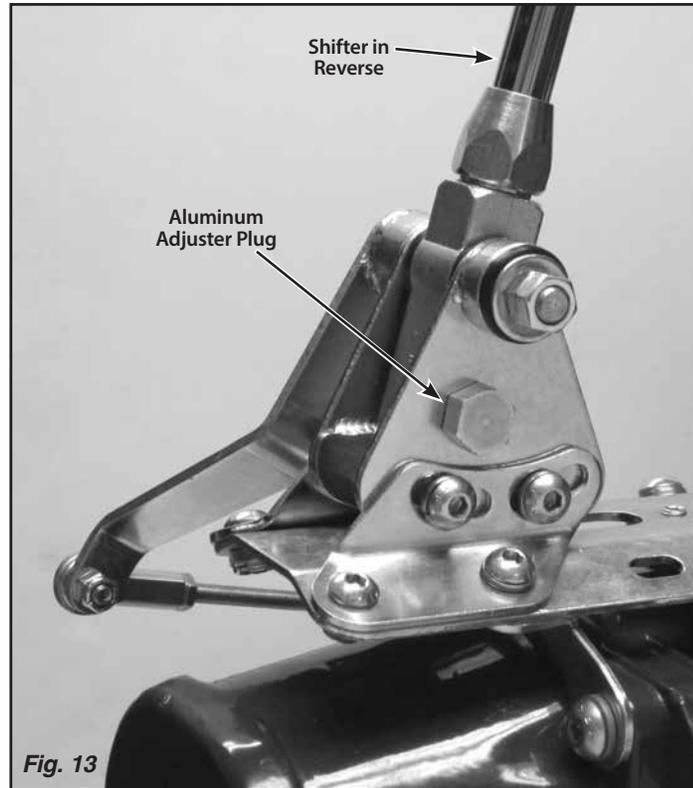

Fig. 13
Step 19: Put the Shifter into the Reverse position. Reposition the switch plate so that the hole in the switch plate lines up with the center groove in the shifter body. **Fig. 12** Screw the provided aluminum adjuster plug into the neutral safety switch opening. Wiggling the switch plate slightly forward and back while you are screwing the aluminum adjuster plug in will help get the shifter body centered on the adjuster plug. **Fig. 13**
- **If there are (2) connections for a neutral safety switch**, run a #12 (or heavier) stranded wire from these terminals in your fuse panel to the (2) terminals on the neutral safety switch. That completes the Neutral Safety Switch wiring.